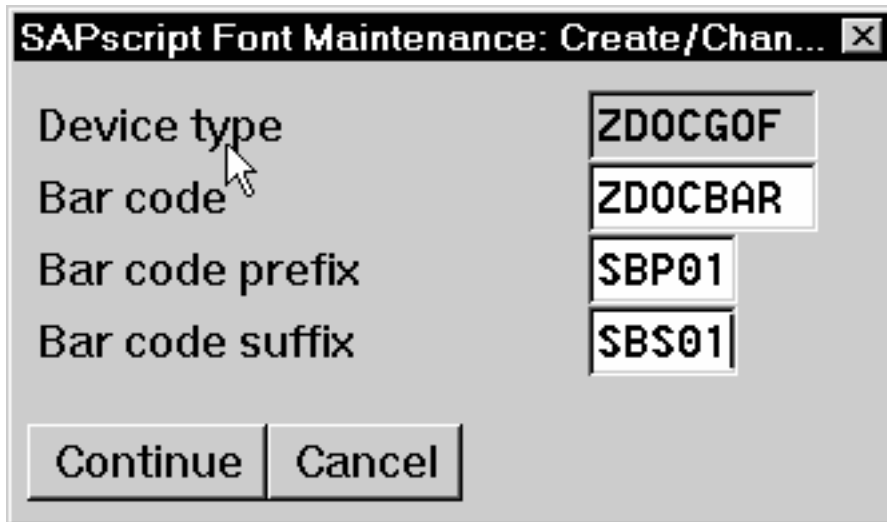

Figure 16. SAPScript Font Maintenance (Create/Change) window
7. From the Create/Change... window displayed below, select the intended bar code (ZDOCGOF) and fill in the remaining information as shown in Figure 16: